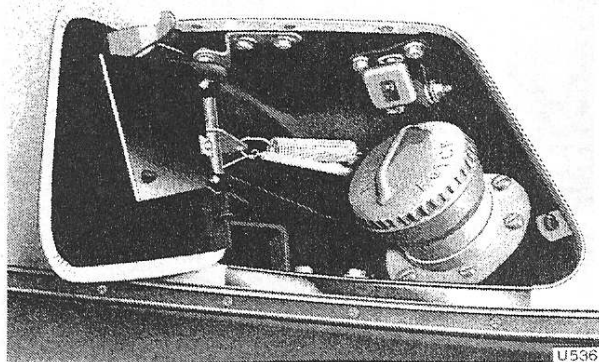

Fig. S117 General view of fuel filler door, brass strip, chrome plate and finishing strip
door (see Fig. S117).
Apply Boscoprene Adhesive 2402 to the edges of the Everflex and to the inside edges of the door; allow to 'flash' dry. Fold the Everflex onto the back of the door pressing it carefully into position (see Fig. S117).
56. Apply two lines of Bostik Seelastik to the rear of the chrome plate fitted at the base of the fuel filler aperture. Slide the plate behind the finishing strip and into position inside the aperture (see Fig. S117). Remove any surplus Seelastik.